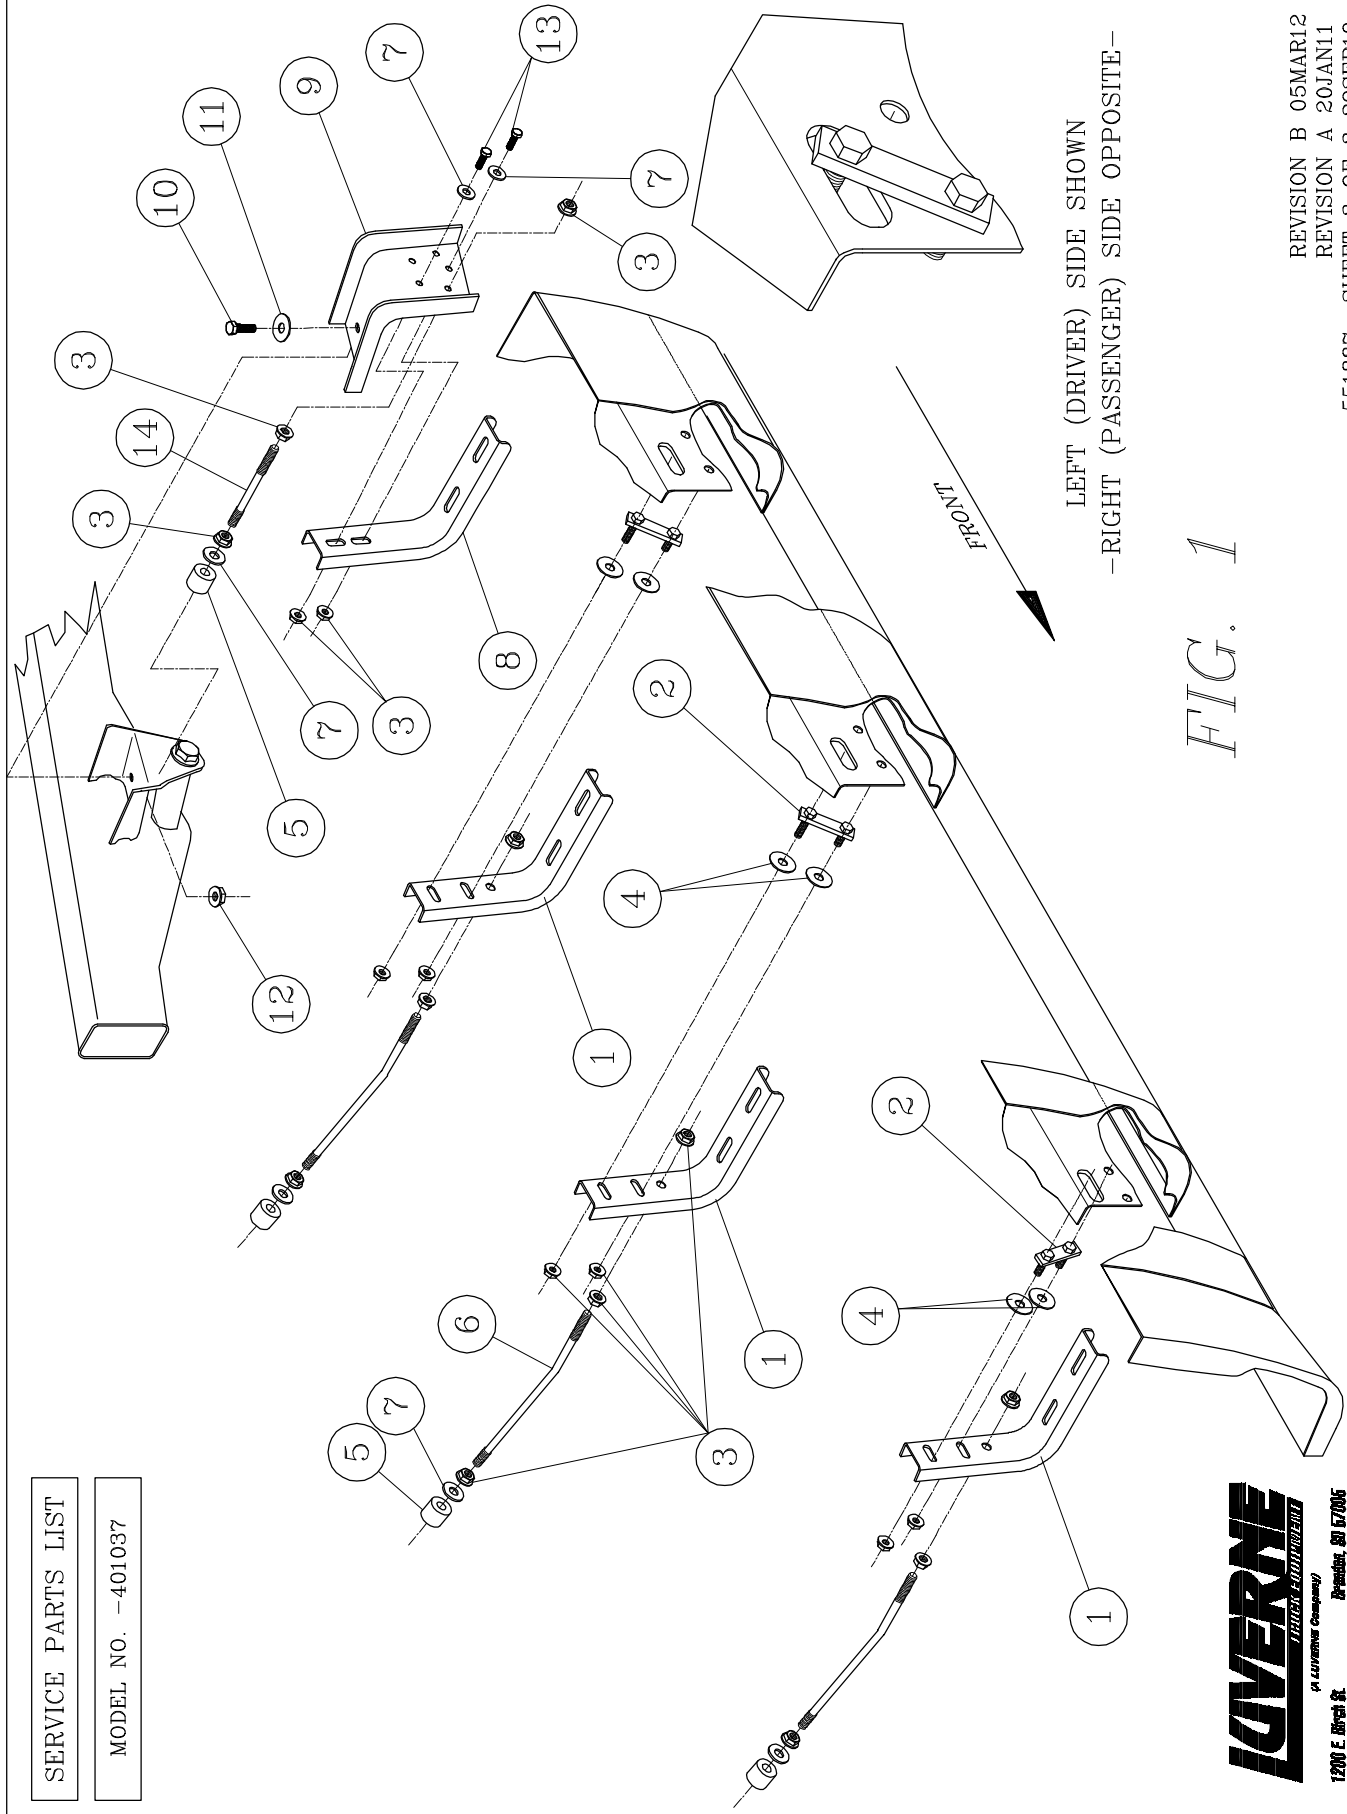

FIG. 1
2. ATTACH THE MOUNTING BRACKETS TO THE VEHICLE AS FOLLOWS: [SEE FIG. 1]
3. ATTACH THE MOUNTING BRACKETS TO THE BOX OF THE VEHICLE AS FOLLOWS (SEE FIG. 1)